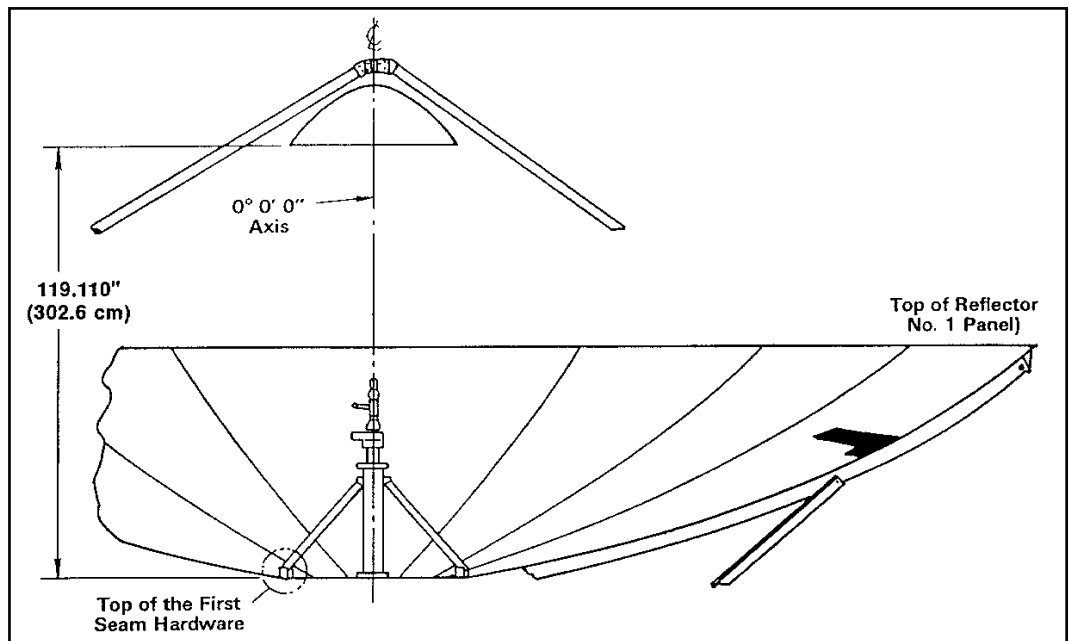

Figure 42
- Step 1** Refer to Figure 42. Use tape measure to set rim of subreflector to required distance of 119.110 in (302.6 cm) measured from the top of first seam hardware to the aperture plane of the subreflector using three subreflector adjustment studs.